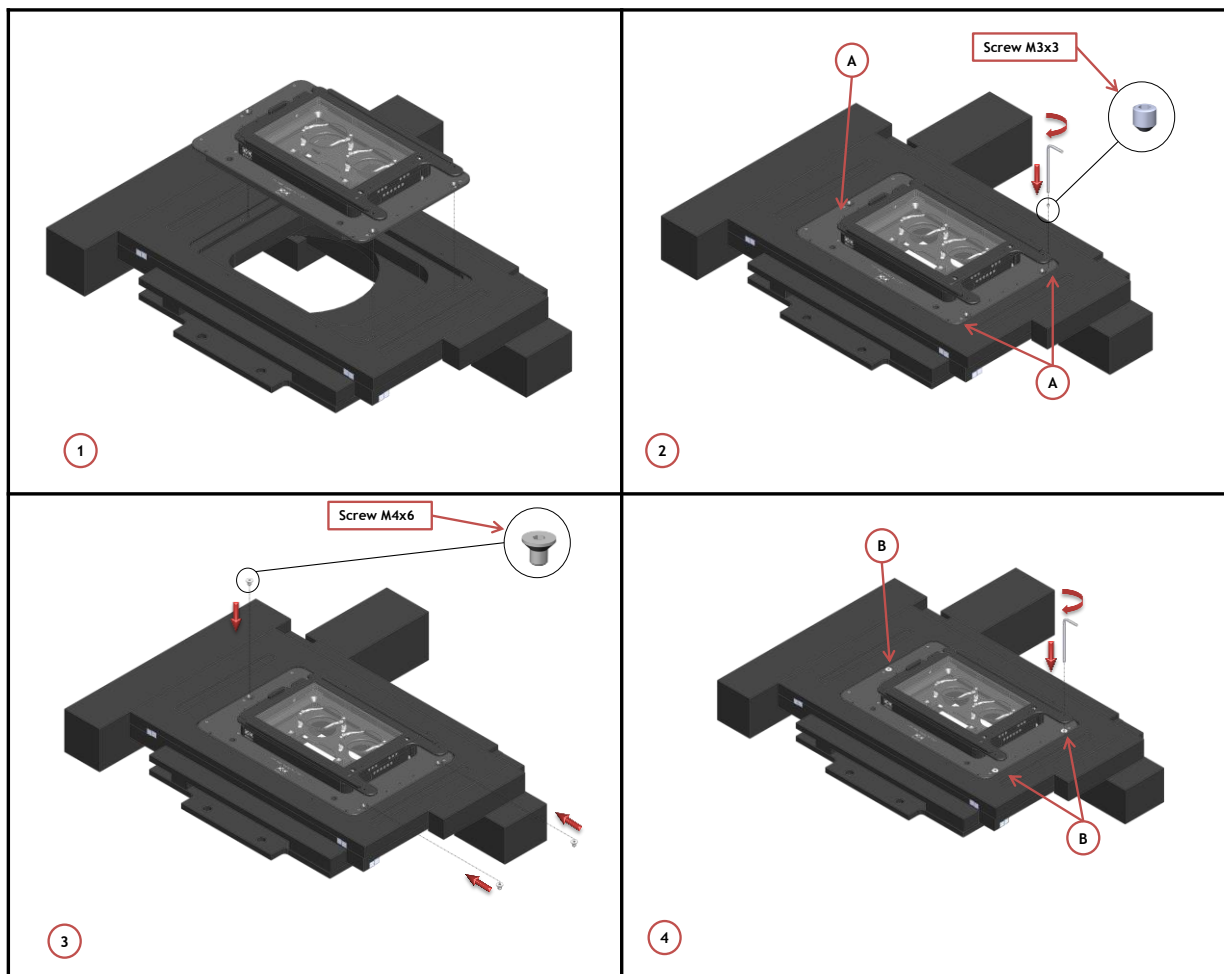

Figure 21. How to fix the H201-NIKON-TI-S-ER to the XY stage.
Once you have assembled the chamber with adapter you can place it on the XY stage, following the steps shown in Figure 21.
1. Place the adapter on the stage (See Figure 21 Image 1).
2. Use the Grub screws to align correctly the adapter on the stage. Grub screws housings are indicated with letter A in Image 2 of Figure 21.
3. Follow the arrows shown in Image 3 of Figure 21 for placing flat socket head cap screws; use the provided Allen wrench for tightening the flat socket head cap screws and fastening the adapter on the stage. Screws housings are indicated with letter B in Image 4 of Figure 21.